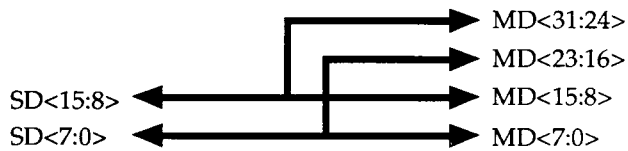

Figure 7-6 Memory Cycles Transfer
The MASTER Cycles Transfer Module controls the data flow between the AT bus (SD) and the main memory bus (MD). During memory read, the memory data is latched by DLE. The memory write data is unlatched. The data flow involved is shown in Figure 7-6.